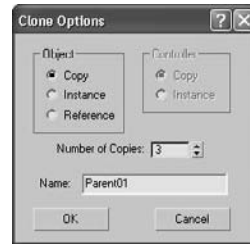

Figure 2.19
As soon as you release the mouse button, the Clone Options window will ask you what kind of copy you want to make (Figure 2.19). We will cover the different types of copies and what they mean in Chapter 4, “Modeling in 3ds Max: Part I.”
3. In the Clone Options window (Figure 2.19), keep the Copy button checked, enter 3 for the number of copies, and change the Name to Parent01. Click OK. Max will create three copies for you and position them as far down in the Z-axis as you moved the original clone while you had the Shift key pressed.